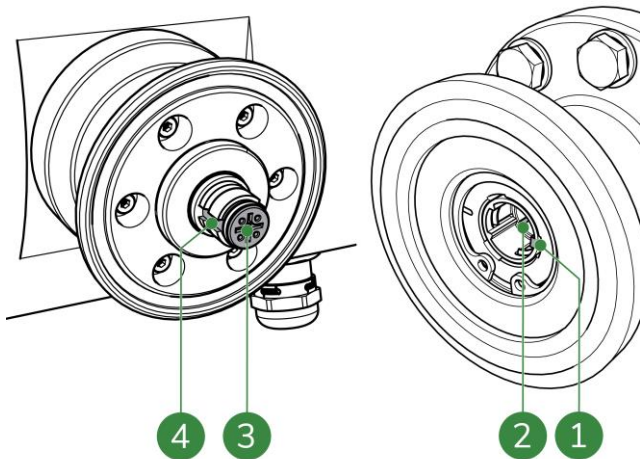

Figure 8-5: Sensor contact pins
- sensor connections (Figure 8-5, pos. 1 and 2).
- transmitter connections (Figure 8-5, pos. 3 and 4);
- the sensor connection pins (Figure 8-5, pos. 2) and small cam (Figure 8-5, pos. 1);
- the transmitter contact points (Figure 8-5, pos. 3) and small notch (Figure 8-5, pos. 4).